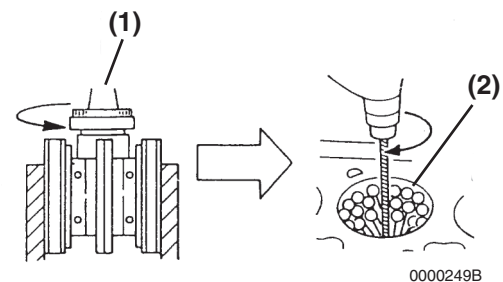

Figure 6-126
2. **Honing** - Minor cylinder imperfections may be corrected by using a rigid cylinder hone (**Figure 6-126, (1)**). Be sure not to exceed the maximum cylinder bore specification.
Deglazing - A used cylinder that did not require boring or honing, should always be deglazed with a ball hone (**Figure 6-126, (2)**) before installing new piston rings. This will properly prepare the cylinder surface to allow new piston rings to seat properly.
- Use a 300-grit hone at 300 - 1200 rpm (**Figure 6-126**).